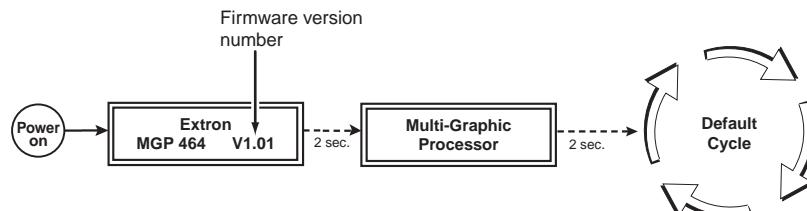

Figure 51. Displaying the Firmware Version at Power-up
To determine the subnet, the local device IP address is compared to the remote device IP address (see figure 51). The octets of each address are compared or not, depending on the value in the related subnet mask octet.
- **Unmasked octets are compared** (indicated by ? in figure 51).
- **Masked octets are not compared** (indicated by n in figure 51).
If the unmasked octets of the two IP addresses **match** (indicated by = in example 1 of figure 51), the two addresses **are on the same subnet**.
If the two unmasked fields **do not match** (indicated by an unequal sign [=] in figure 51, examples 2 and 3), the addresses **are not on the same subnet**.